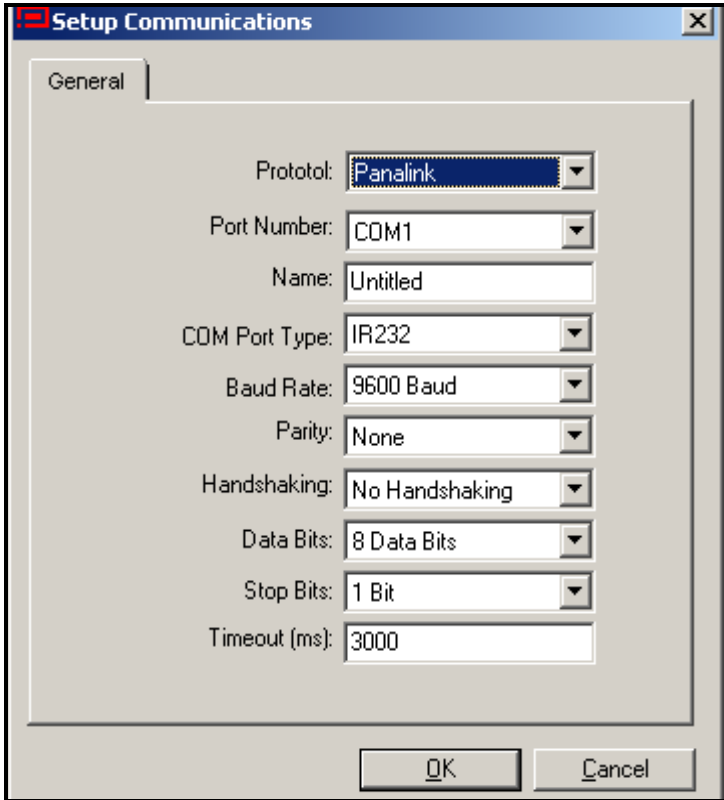

Figure 3: Setup Communications Screen
4. Click on the “*Communications Port*” option to select it. The *Setup Communications* screen appears similar to Figure 3 below.